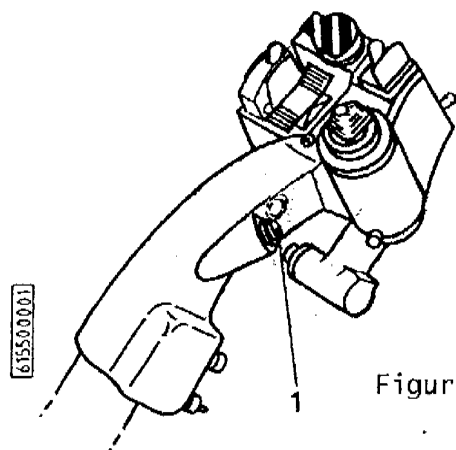

Figure 3
1.6 Collective lever grip control (Figure 3)